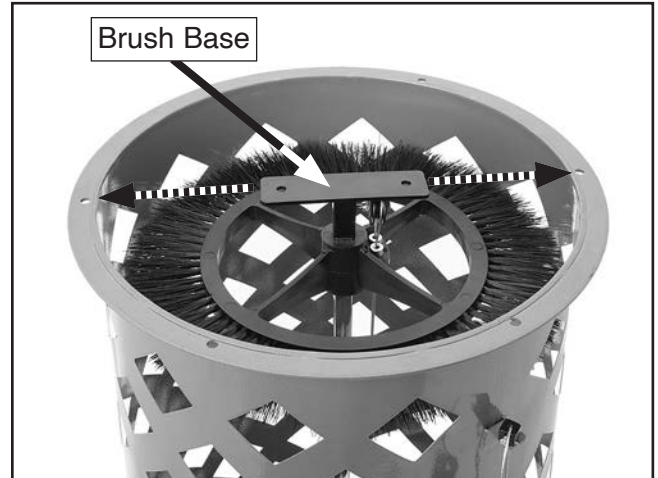

Figure 76. Example of filter brush base aligned with assembly fastener holes.
8. Before re-inserting the filter into the assembly, make sure that the filter brush base is aligned with two of the fastener holes around the base of the assembly (see **Figure 76**). This will allow the canister base to align with the fastener holes around the brush base.